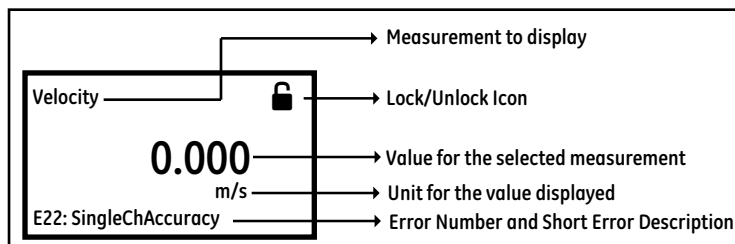

Figure 11: Measurement View
After power up, if the meter's *Measurement View* (Refer Figure 11) shows a lock icon on the top right of the display, use the following steps to unlock the meter from keypad lockout mode.
- Finally, the *Measurement View* (Refer Figure 11)
This screen (Refer Figure 11) will be referred to as "*Measurement View*" throughout this chapter. User can choose the measurement to be displayed in this view from a list of options. The Error indicator at the bottom left of the display will be blank if the meter has no error.